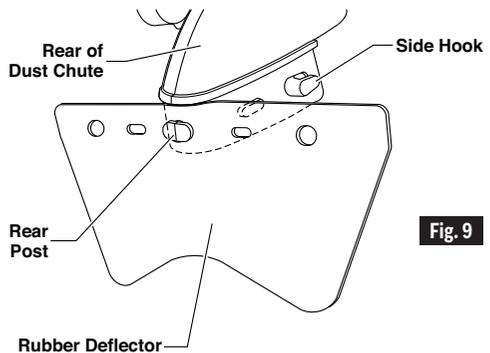

Fig. 9
**Removing Deflector** – Pull one of the deflector's tabs to the front and then sideways until it comes off one of the dust chute's side hooks (see Figure 9). Unhook the opposite side. Then unhook the deflector from the rear post of the chute by pulling and stretching until it is free. NOTE: Removing the deflector lowers dust collection capability.